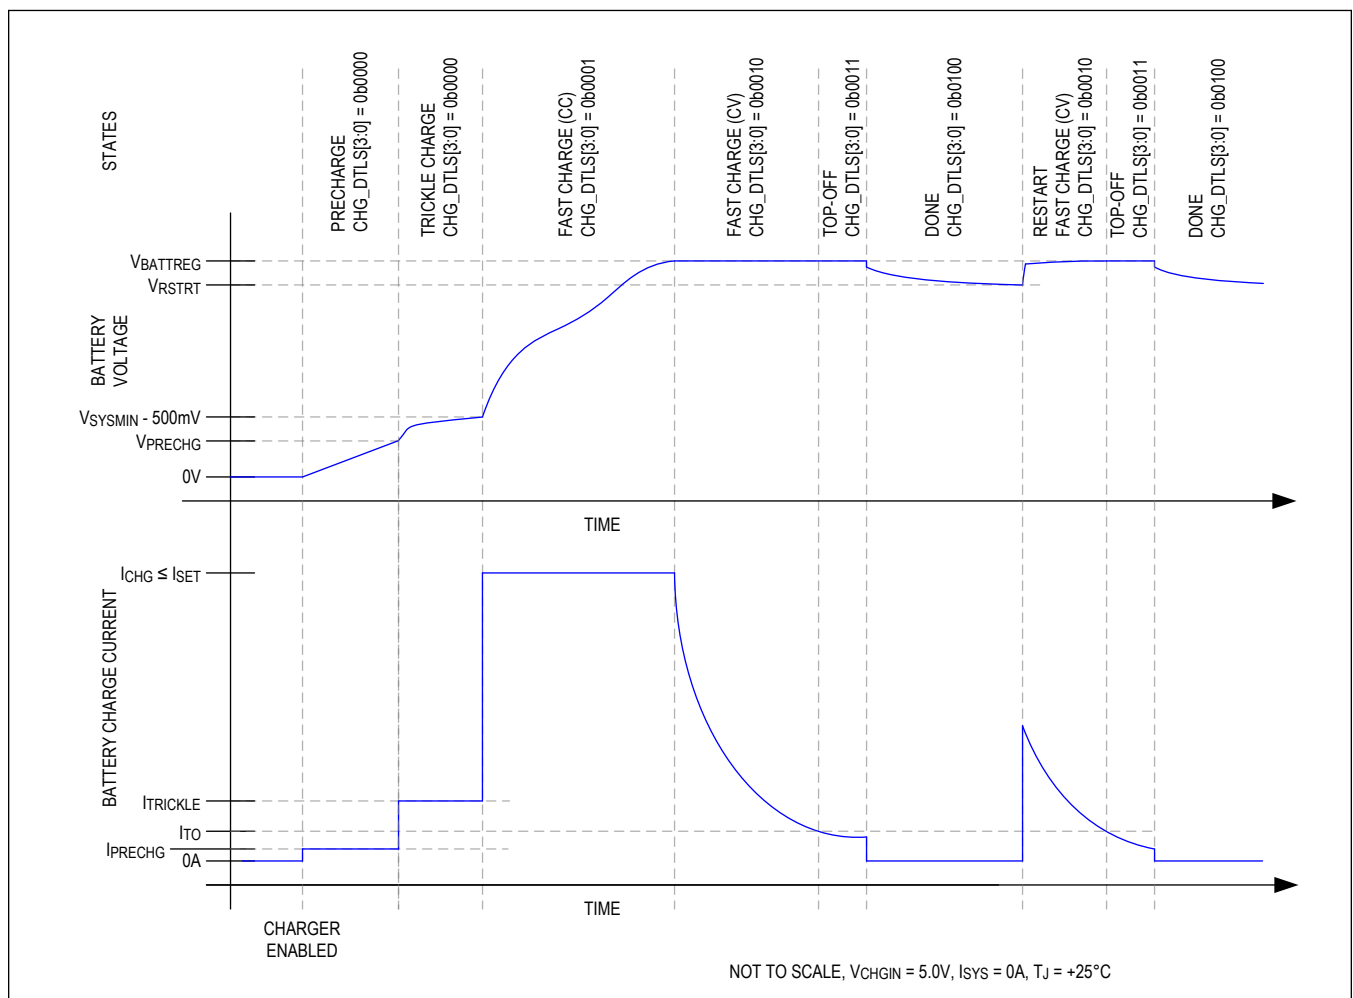
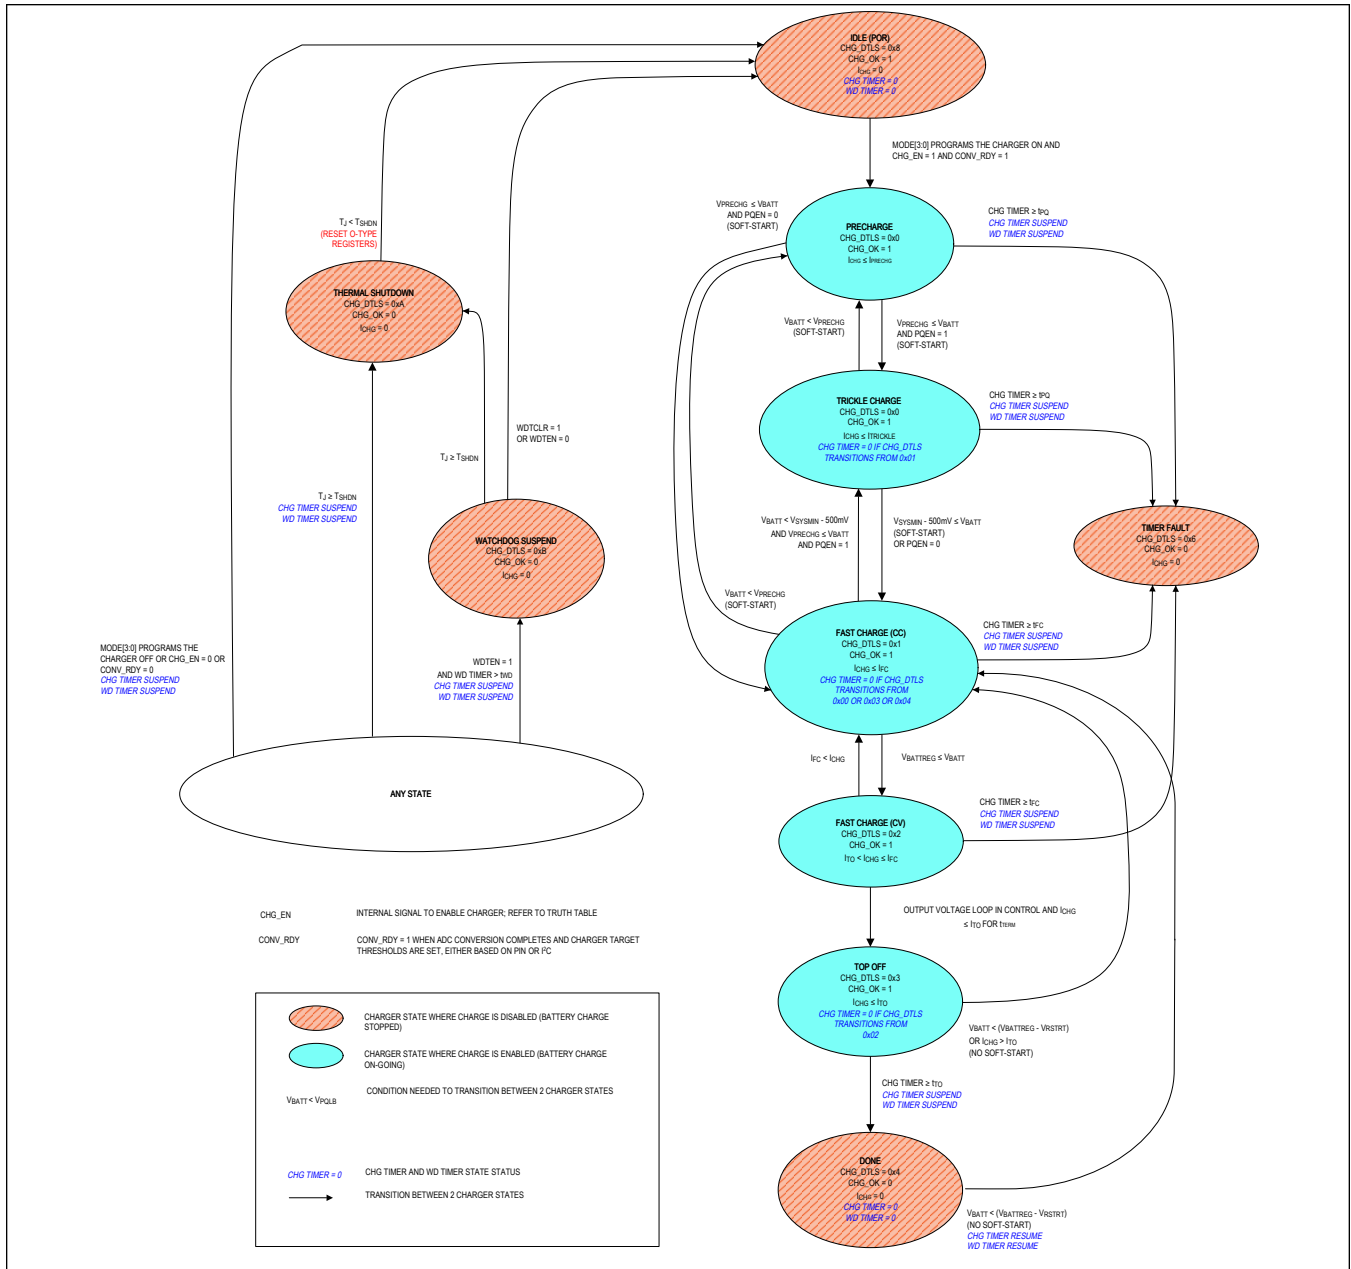

Figure 1. Li Battery Charge Profile
Figure 2. Charger State Diagram
The MAX77960/MAX77961 utilize several charging states to safely and quickly charge batteries as shown in Figure 1 and Figure 2. Figure 1 shows an exaggerated view of a Li+/Li-Poly battery progressing through the following charge states when there is no system load and the die and battery are close to room temperature: Prequalification → Fast-charge → Top-off → Done.
From any state shown in Figure 2 except thermal shutdown, the no input power or charger disabled state is entered whenever the charger is programmed to be off or the charger input CHGIN is invalid. After being in this state for t_{SCIDG}, CHG_DTLS is set to 0x08 and CHG_OK is set to 1. A CHG_I interrupt is generated if CHG_OK was 0 previously.
As shown in Figure 2, the charger enters the precharge state when the battery voltage is less than V_{PRECHG} . After being in this state for t_{SCIDG} , a CHG_I interrupt is generated if CHG_OK was 0 previously, CHG_OK is set to 1 and CHG_DTLS is set to 0x00. In the precharge state, charge current into the battery is I_{PRECHG} .
As shown in Figure 2, the charger state machine is in trickle charge state when $V_{PRECHG} < V_{BATT} < V_{SYSTEMIN} - 500mV$. After being in this state for t_{SCIDG} , a CHG_I interrupt is generated if CHG_OK was 0 previously, CHG_OK is set to 1 and CHG_DTLS = 0x00.
As shown in Figure 2, the charger enters the fast-charge constant current (CC) state when $V_{SYSTEMIN} - 500mV$ (typ) $< V_{BATT} < V_{BATTREG}$. After being in the fast-charge CC state for t_{SCIDG} , a CHG_I interrupt is generated if CHG_OK was 0 previously, CHG_OK is set to 1 and CHG_DTLS = 0x01.
As shown in Figure 2, the charger enters the fast-charge constant voltage (CV) state when the battery voltage rises to $V_{BATTREG}$ from the fast-charge CC state. After being in the fast-charge CV state for t_{SCIDG} , a CHG_I interrupt is generated if CHG_OK was 0 previously, CHG_OK is set to 1 and CHG_DTLS = 0x02.
In the fast-charge CV state, the battery charger maintains $V_{BATTREG}$ across the battery and the charge current is less than or equal to I_{FC} . As shown in Figure 1, charger current decreases exponentially in this state as the battery becomes fully charged.
As shown in Figure 2, the top-off state can only be entered from the fast-charge CV state when the charger current decreases below I_{TO} for t_{TERM} . After being in the top-off state for t_{SCIDG} , a CHG_I interrupt is generated if CHG_OK was 0 previously, CHG_OK is set to 1, and CHG_DTLS = 0x03. In the top-off state the battery charger maintains $V_{BATTREG}$ across the battery and typically the charge current is less than or equal to I_{TO} .
As shown in Figure 2, the battery charger enters its done state after the charger has been in the top-off state for t_{TO} . After being in this state for t_{SCIDG} , a CHG_I interrupt is generated only if CHG_OK was 0 previously, CHG_OK is set to 0 and CHG_DTLS = 0x04.
The battery charger provides both a charge timer and a watchdog timer to ensure safe charging. As shown in Figure 2, the charge timer prevents the battery from charging indefinitely. The time that the charger is allowed to remain in its prequalification states is t_{PQ} . The time that the charger is allowed to remain in the fast-charge CC and CV states is t_{FC} , which is programmable with FCHGTIME. Finally the time that the charger is in the top-off state is t_{TO} which is programmable with TO_TIME. Upon entering the timer fault state a CHG_I interrupt is generated without a delay, CHG_OK is cleared and CHG_DTLS = 0x06.
The charger is off in the timer fault state. The charger can exit the timer fault state when the charger is programmed to be off then on again through the MODE bits or when DISQBAT pin is toggled from L-H-L. Alternatively, the charger input can be removed and reinserted to exit the timer fault state (see the ANY STATE bubble in Figure 2).
The battery charger provides both a charge timer and a watchdog timer to ensure safe charging. As shown in Figure 2, the watchdog timer protects the battery from charging indefinitely in the event that the host hangs or otherwise cannot communicate correctly. The watchdog timer is disabled by default with WDTEN = 0. Enable the feature by setting WDTEN = 1. With watchdog timer enabled, the host controller must reset the watchdog timer within the timer period (t_{WDT}) in order for the charger to operate properly. Reset the watchdog timer by programming WDTCLR = 0x01.
As shown in Figure 2, the state machine enters the thermal shutdown state when the junction temperature (T_J) exceeds the device's thermal shutdown threshold (T_{SHDN}). When T_J is close to T_{SHDN} , the charger would have already folded back the input current to 0A, (see the Thermal Foldback section for more details), so the charger and the DC-DC are effectively off. Upon entering this state, CHG_I interrupt is generated if CHG_OK was 1 previously, CHG_OK is cleared, and CHG_DTLS = 0x0A.